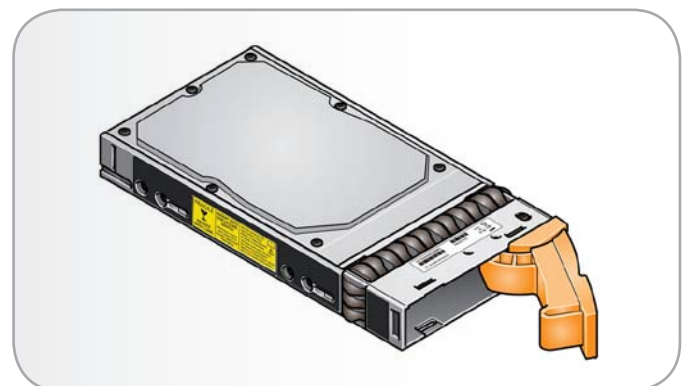

Fig. 90 - Drive Carrier Module with Handle Release
1. Release the carrier handle by pressing the latch with your finger and rotating the handle towards the right (Fig. 90).